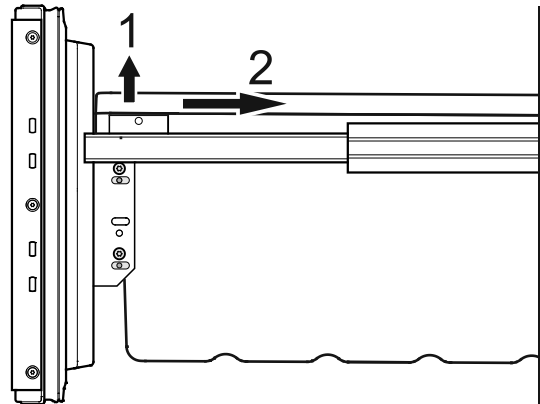
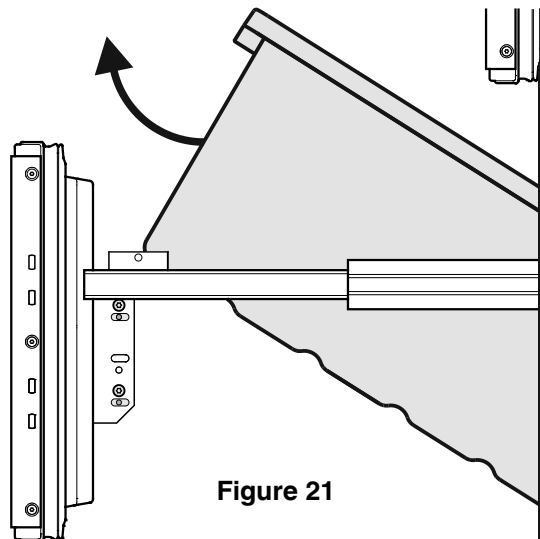

Figure 20
Figure 21
- Unlatch the container on the left and right corners by pulling upwards (1) - **Figure 20**.
- Slide the container backwards (2) - **Figure 20**.
- Tilt the container at an angle and remove - **Figure 21**.
- Remove the freezer drawer containers as shown in **Figure 20** and **Figure 21**.